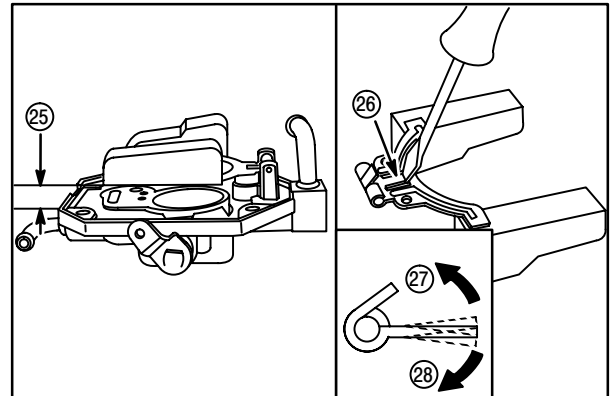

Fig. 112
20. Invert upper carburetor body as shown in Fig. 112.
- The float should be parallel (25) with carburetor bowl mounting surface.
- If not, use a small screw driver to bend tang (26) and lower (27) or raise (28) the float level as shown.